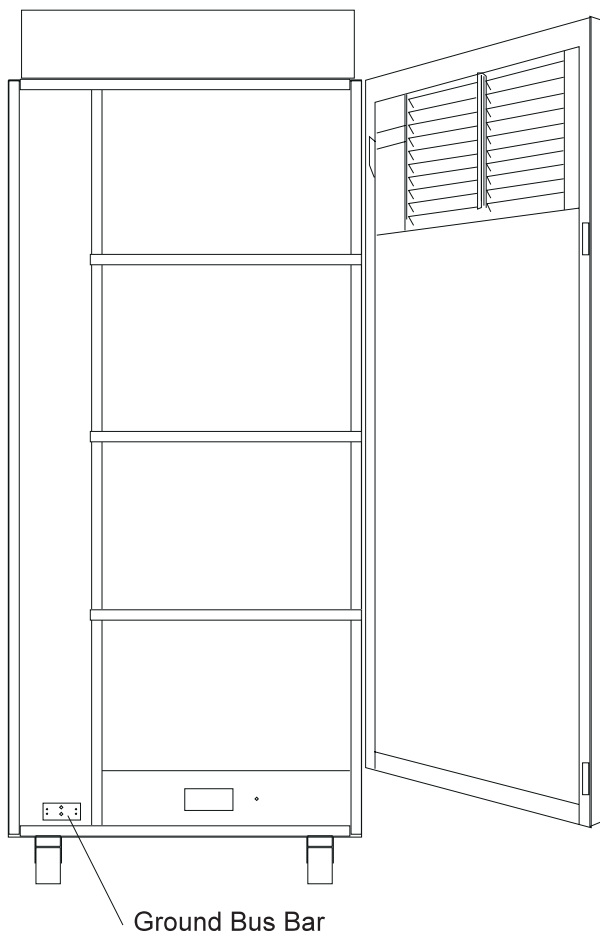

Figure 2-6. Installing Frame Jumper/Ground Cable Between an RS/6000 7017 Model S70 frame and an SP Frame
- a. **SP-attached server:** Route the ground strap (part number 08J6118) to the ground bus bar on the bottom of the RS/6000 7017 Model S70 frame, see Figure 2-6.